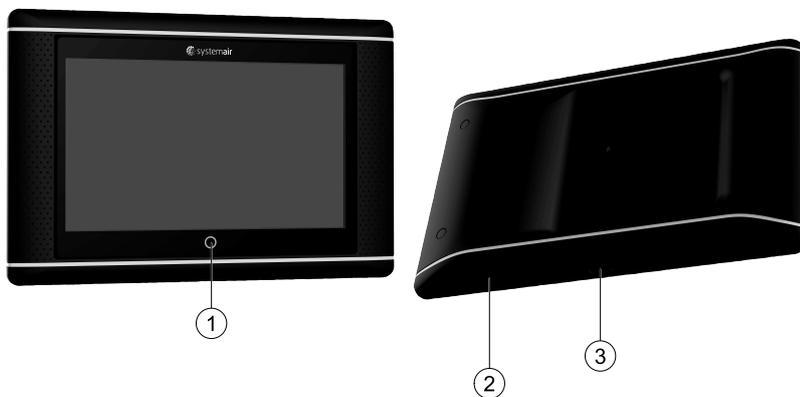

Fig. 1 (1) NaviPad button, (2) USB connection, reboot button, (3) power supply and communication
You can always return to system overview dashboard by pressing the NaviPad button, figure 1, (1).